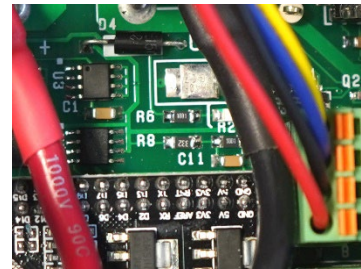

Figure 3-6. R8 and R2
- Look over the control board for damage, especially in the area of R8 & R2 (see Figure 3-6)